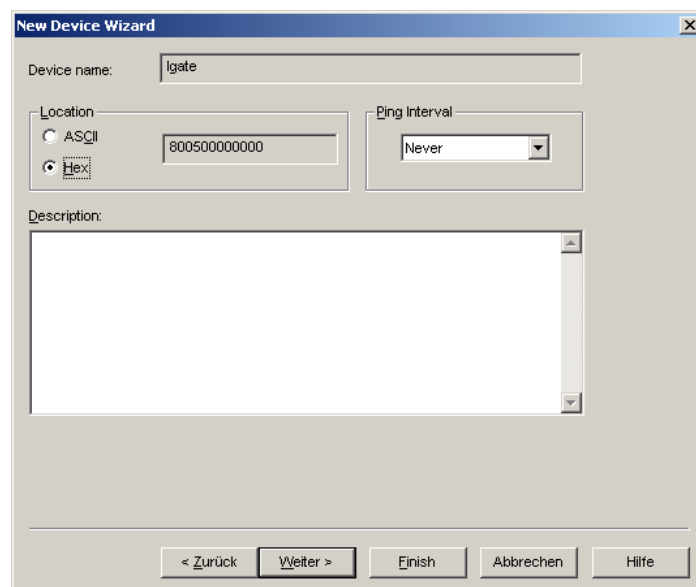

Figure 61: Leave defaults for Location.
5. The following dialog shown in Figure 61 appears, click **Next**.